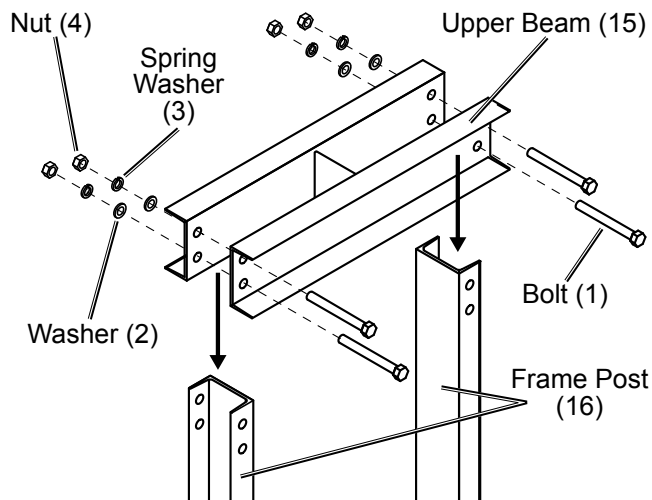

Figure 4
6. **Align** the holes on the Upper Beam (15) with the holes in the top of the Frame Posts (16) and secure in place with the Bolts (1), Washers (2), Spring Washers (3), and Nuts (4). Align the Upper Beam with the bottle jack bracket on the bottom. Check that the assembly is square, then finish tightening bolts. See Figure 4.